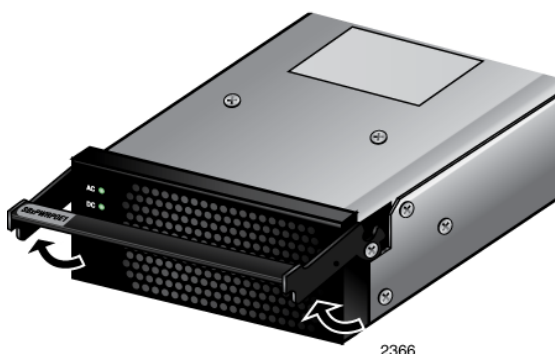

Figure 52. Unlocking the Handle on the AT-SBxPWRPOE1 Power Supply
5. Raise the locking handle on the AT-SBxPWRPOE1 Power Supply, as shown Figure 52.